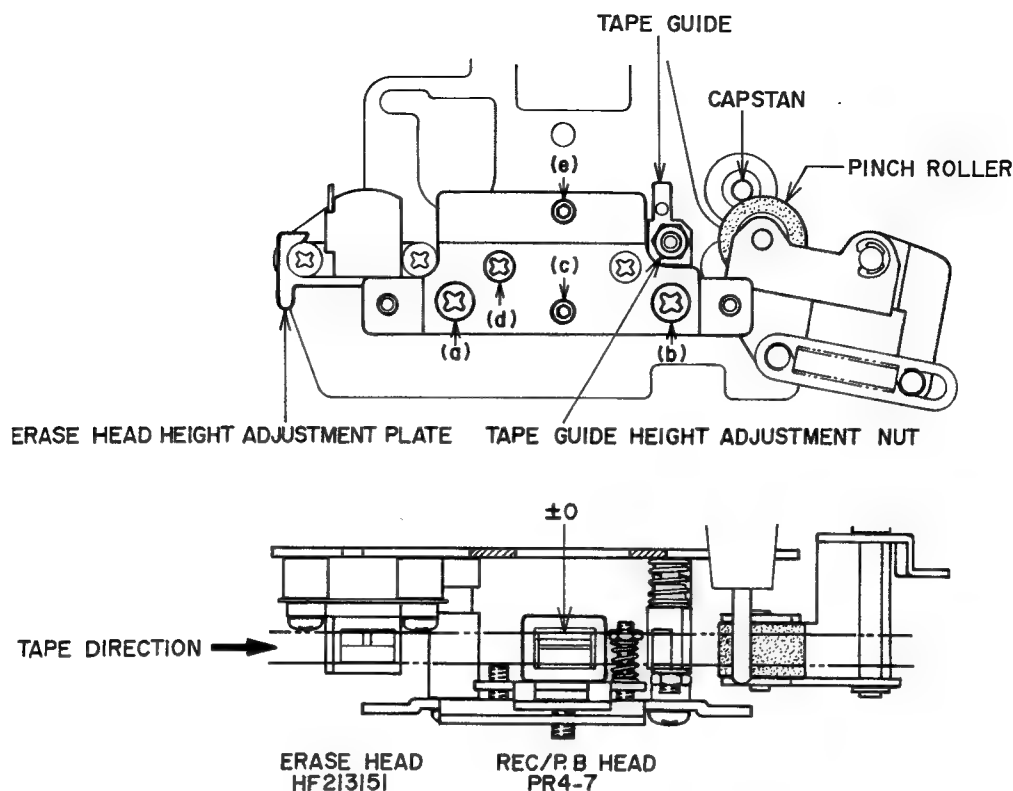

Fig. 12 Head Adjustment
(Refer to Figs. 12, 13)
ADJUSTMENT (Refer to Figs. 12, 14)
3. RECORDING/PLAYBACK HEAD HEIGHT ADJUSTMENT (Refer to Figs. 12, 13)
- 2) As shown in Fig. 12, adjust head height with screws (c), (d) and (e) until the upper edge of the tape is the same height as the upper edge of the left channel REC/PB head core.
4. RECORDING/PLAYBACK HEAD AZIMUTH ALIGNMENT ADJUSTMENT (Refer to Fig. 12)
- 1) Playback a 10 kHz pre-recorded cassette azimuth alignment test tape and adjust screw (d) shown in Fig. 12 to obtain maximum output on both channels.